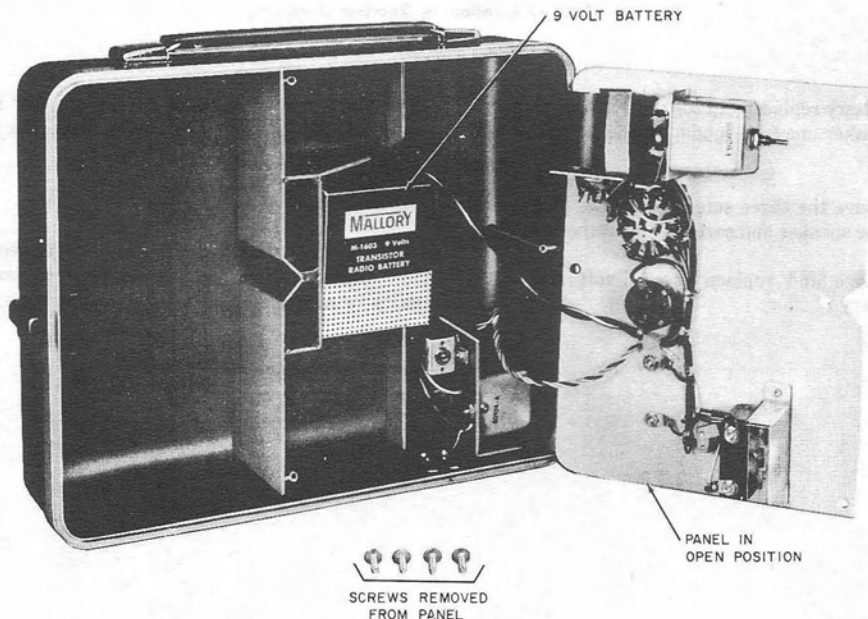

Fig. 15—Battery Location in Transmitter Assembly
- (a) Remove the four slotted head screws located on panel edges and carefully remove panel (Fig. 15 and 16).